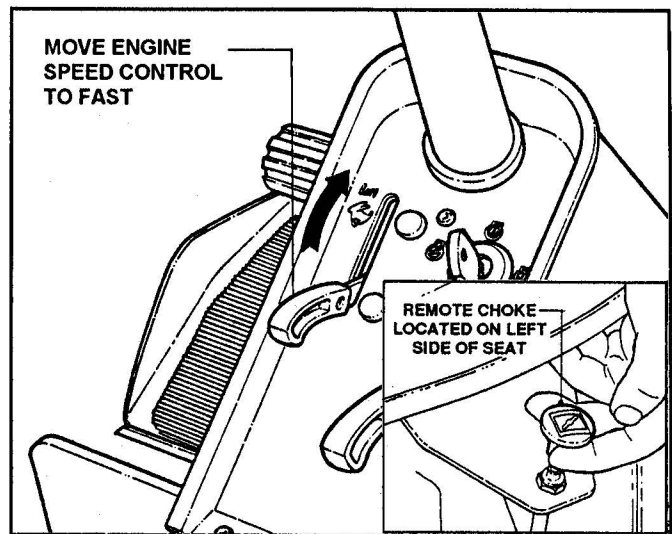

FIGURE 2.10
5. Move engine speed control to the "FAST" position and pull choke "OUT" to start a cold engine. See Figure 2.10.